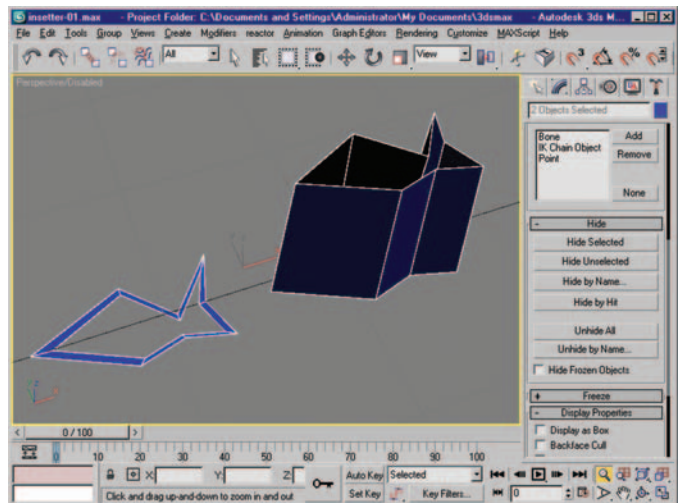

Figure 3.32 Depth added to model.
3. Next take the inner border and pull it upward to give our shape some depth (Figure 3.32).